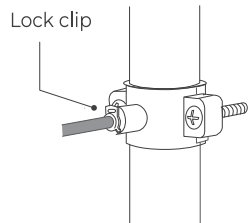

Figure 10
e. Pop the lock clip onto the fitting to secure the connection (Figure 10).